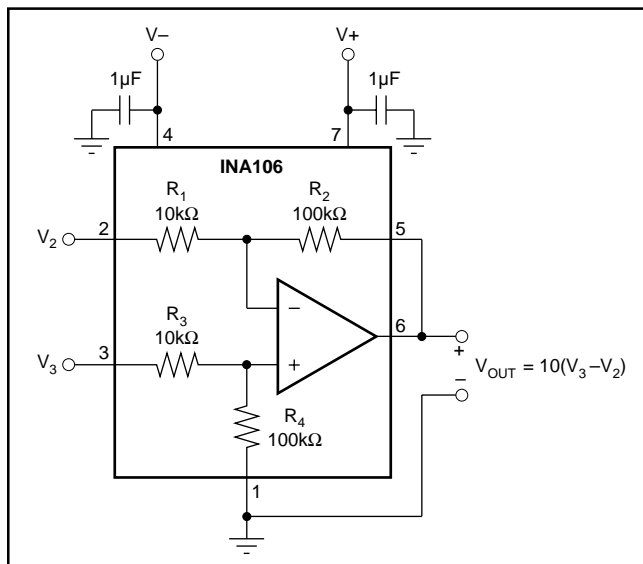

FIGURE 1. Basic Power Supply and Signal Connections.
NOTES: (1) Connected as difference amplifier (see Figure 1). (2) Nonlinearity is the maximum peak deviation from the best-fit straight line as a percent of full-scale peak-to-peak output. (3) With zero source impedance (see "Maintaining CMR" section). (4) Includes effects of amplifiers's input bias and offset currents. (5) Includes effect of amplifier's input current noise and thermal noise contribution of resistor network.
Figure 1 shows the basic connections required for operation of the INA106. Power supply bypass capacitors should be connected close to the device pins as shown.
Referring to Figure 1, the CMR depends upon the match of the internal  $R_4/R_3$  ratio to the  $R_1/R_2$  ratio. A CMR of 106dB requires resistor matching of 0.005%. To maintain high CMR over temperature, the resistor TCR tracking must be better than  $2\text{ppm}/^\circ\text{C}$ . These accuracies are difficult and expensive to reliably achieve with discrete components.